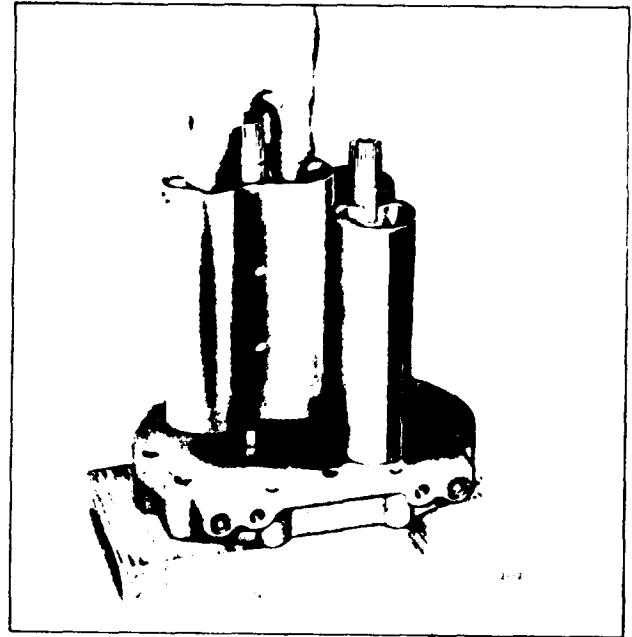

Fig. 10 - Installing Blower Rotors in Front End Plate
3. Place the front end plate on two wood blocks. Then install the rotors, gear end up, on the end plate (Fig. 10). On the former blowers, be sure that the ring type oil seal are properly positioned on the rotors.